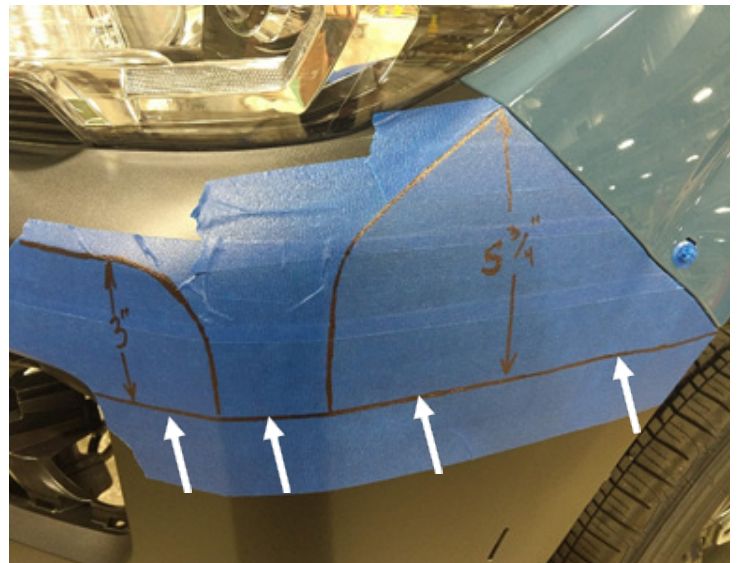

Figure 17
19. Using a silver sharpie and a tape measure, scribe a straight line on the bumper cover connecting the bottom of the opening around the fog light and the bottom corner of the fender. (Figure 17)